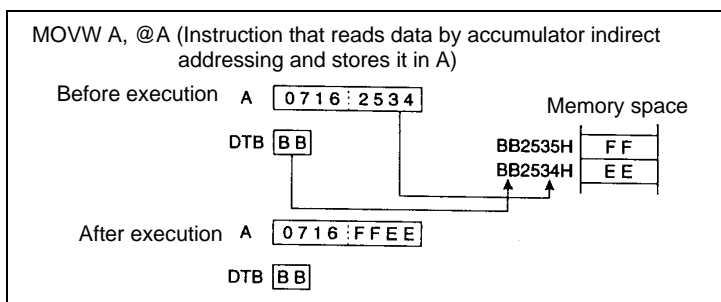

Figure B.4-10 Example of accumulator indirect addressing (@A)
This addressing method accesses memory at the address indicated by the contents (16 bits) of the lower bytes of the accumulator (AL). Address bits 16 to 23 are specified by the DTB register as mnemonics. Figure B.4-10 shows an example of accumulator indirect addressing (@A).